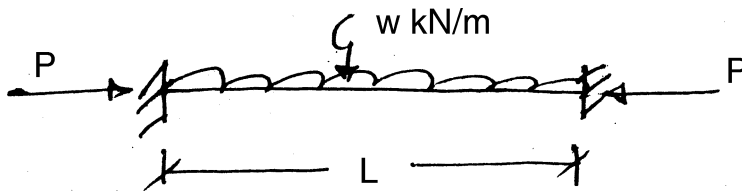

Fig. 4
4. Derive the equation of BM and deflection of a beam column subjected to loading shown in Fig. 4. 11